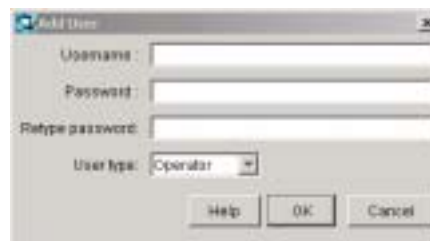

Figure 12. Add New User Screen
- b. When the **Add User** screen appears (Figure 12), enter a desired user name (up to 64 characters) and password (up to 16 characters). *Remember, passwords and usernames are case sensitive.*